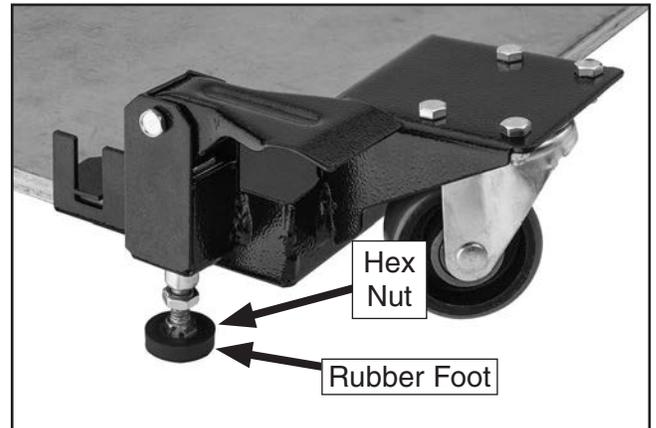

Figure 9. Rubber foot and hex nut adjustment.
The height of the rubber feet can be adjusted to stabilize the machine. To ensure the machine does not move during operations, always make sure the adjustable rubber feet (see **Figure 9**) are firmly touching the ground before operating the machine.
- Loosen hex nut on each foot to allow foot (see **Figure 9**) to move up or down as needed.